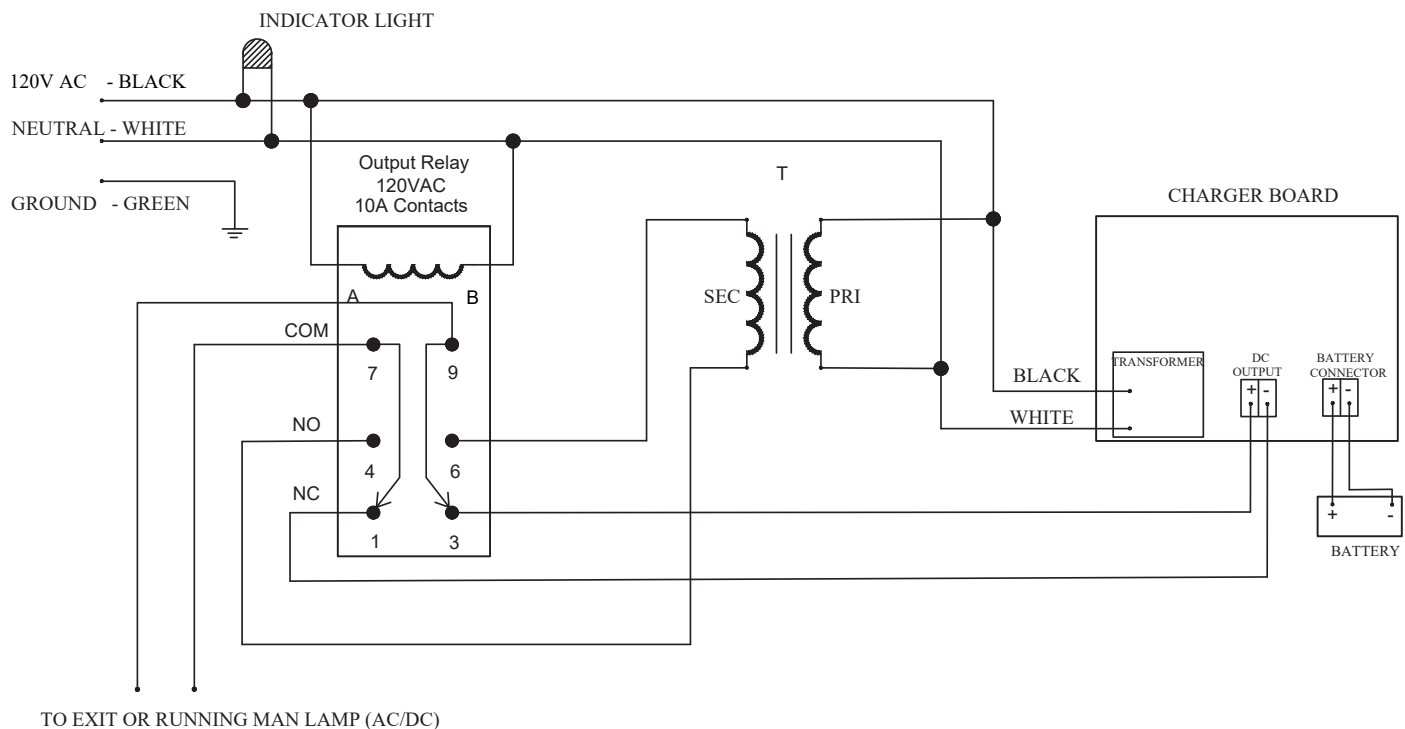

Figure 6
6. Make electrical connections; see wiring diagram (figure 6)
4. Open transfer panel cover and make electrical connections (figure 6).